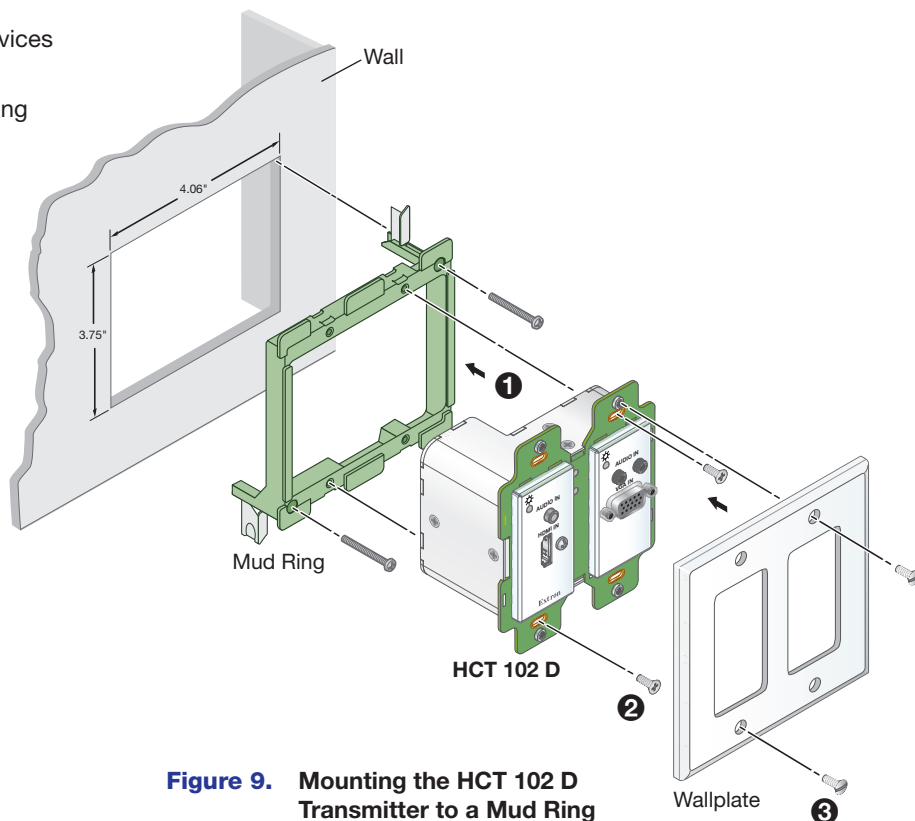

Figure 9. Mounting the HCT 102 D Transmitter to a Mud Ring
2. Insert the cabled transmitter into the mud ring or junction box within the wall or furniture, aligning the mounting holes in the transmitter with those in box or mud ring (see figures 9 and 10, **1**).